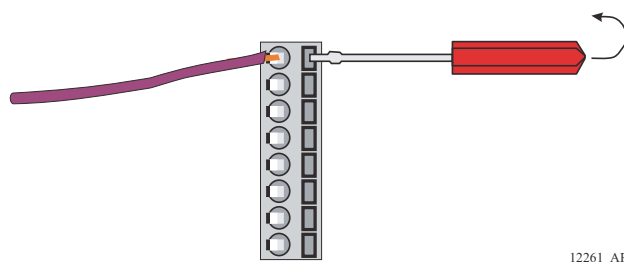

Figure 4-14: Terminal Strip Cable Connections
- K Connect the conductors to the appropriate pins as shown on Table 4-2: Processor Circuit Board Terminal Strip Color Coded Connections for Remote Stations, using a small slotted screwdriver as shown in Figure 4-14: Terminal Strip Cable Connections